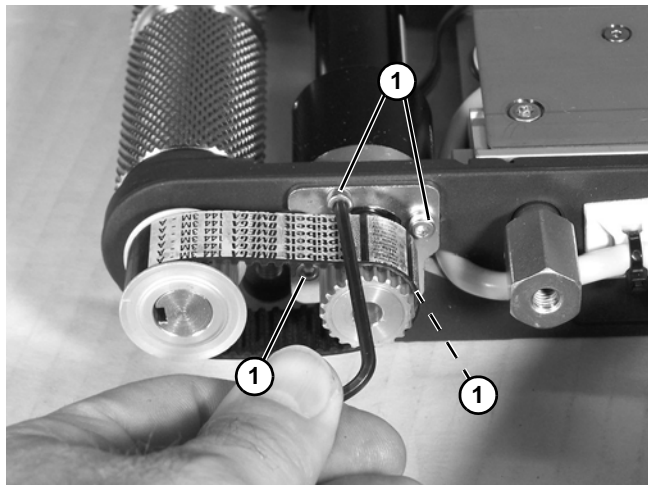

Figure 49
4. Loosen four clamp plate screws (Figure 49, item 1).